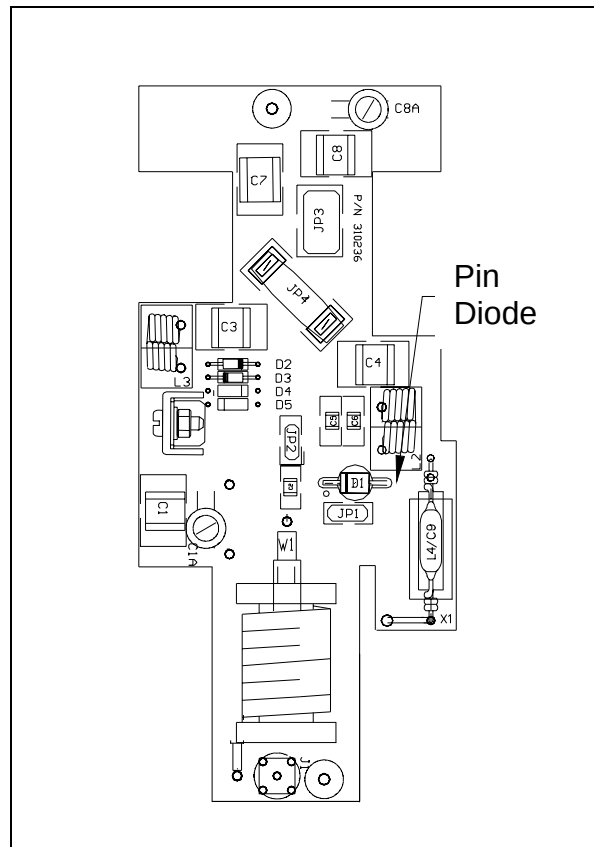

Figure 23: Saddle feedboard on the posterior coil.
Step 5 – Check the pin diodes located on the feed boards of the individual coil elements with a DVM. Every coil element has one diode (see *Figures 23, 24 and 25* for the location of the diodes).